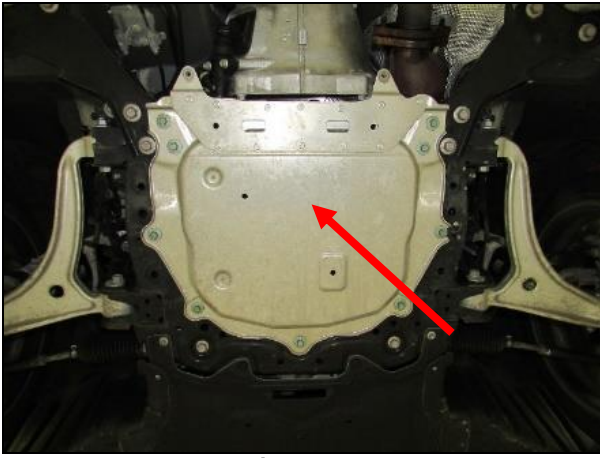

Figure 1
3. From under the car, remove (x9) 12mm bolt heads to remove the front splash guard under the motor (**Figure1**).